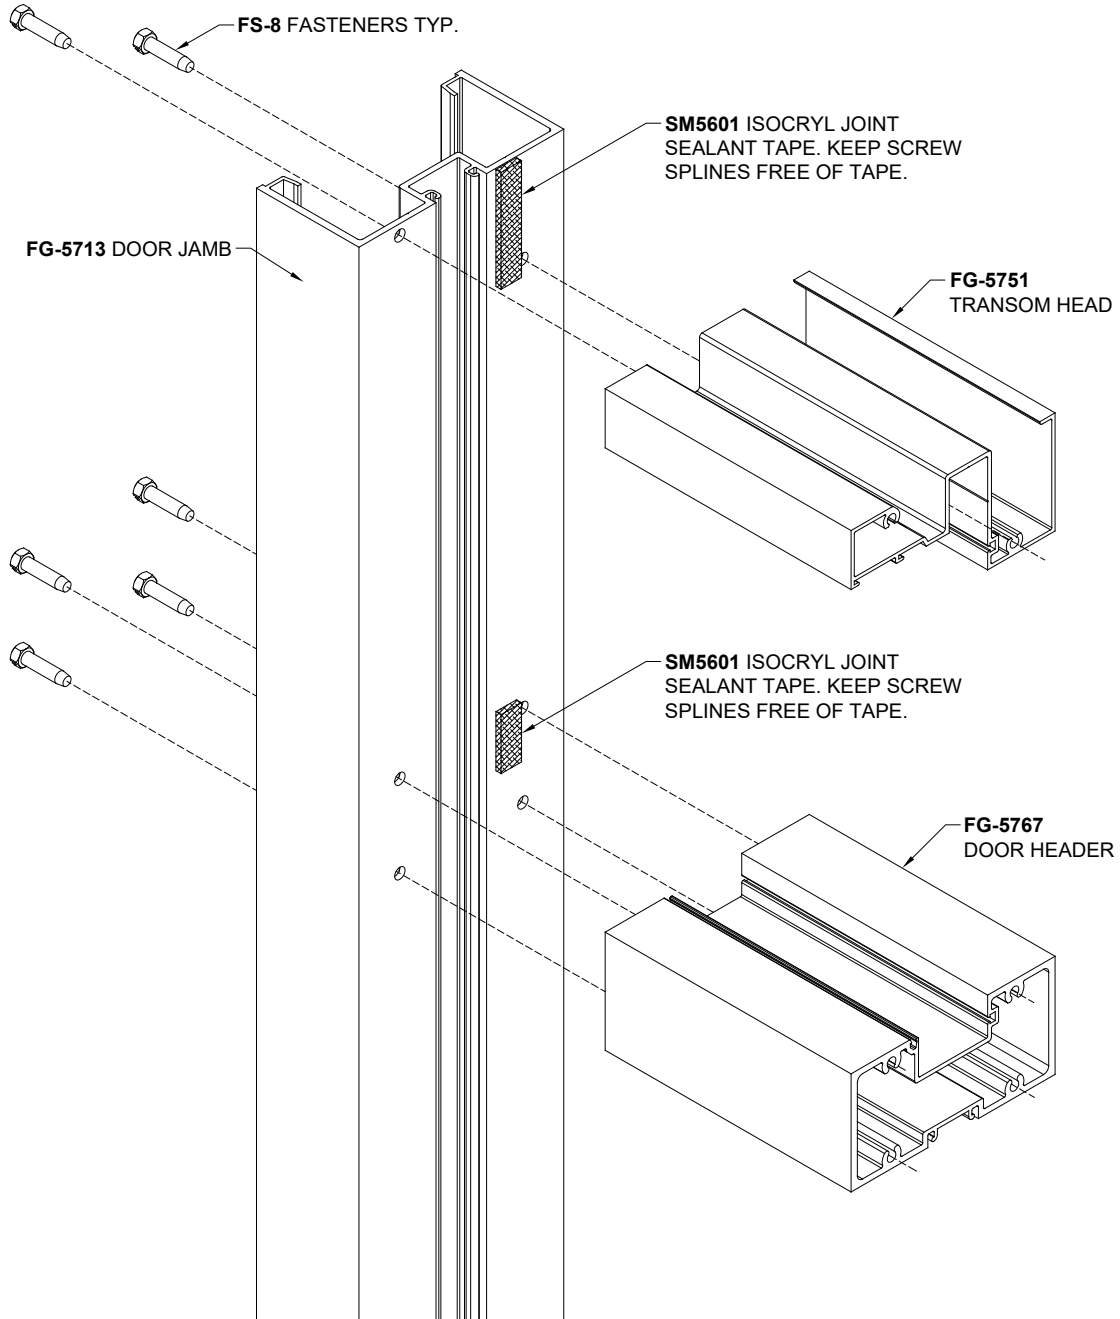
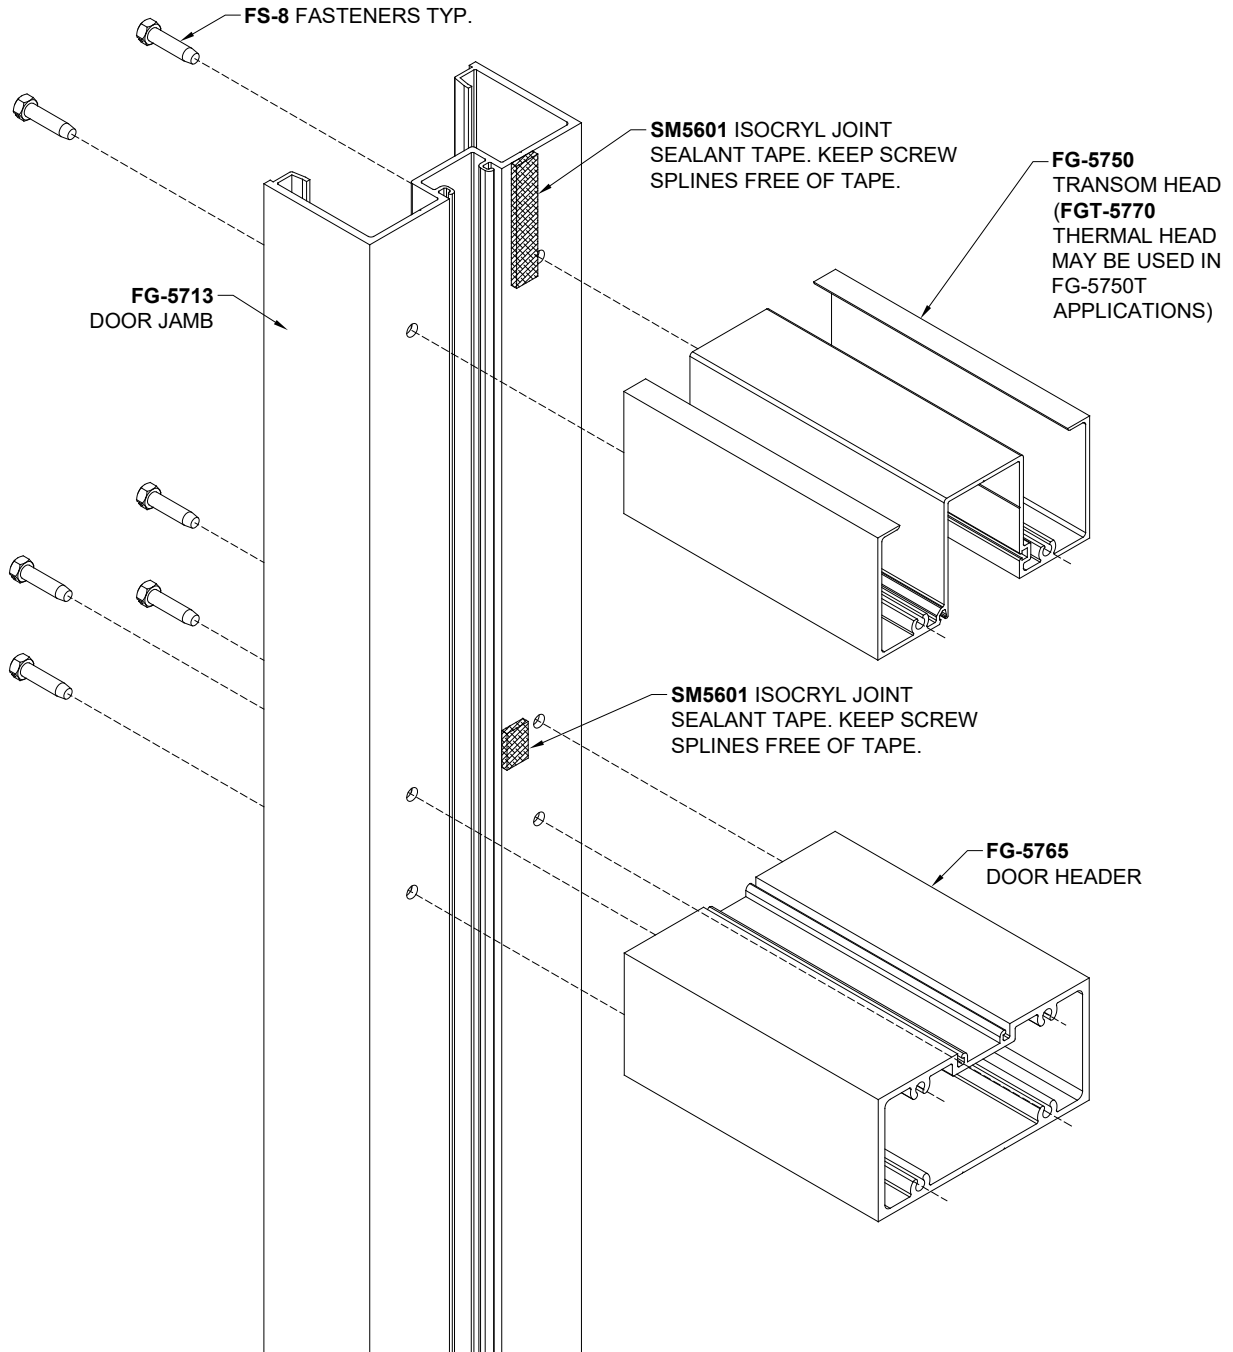

Figure 15: FG-5750 StormMax® Door Frame Assembly Option 1
Figure 16: FG-5750 StormMax® Door Frame Assembly Option 2
- 4.1 Reference Figure 15 and Figure 16 to assemble Door Jamb to Door Header and Transom Head (if applicable).